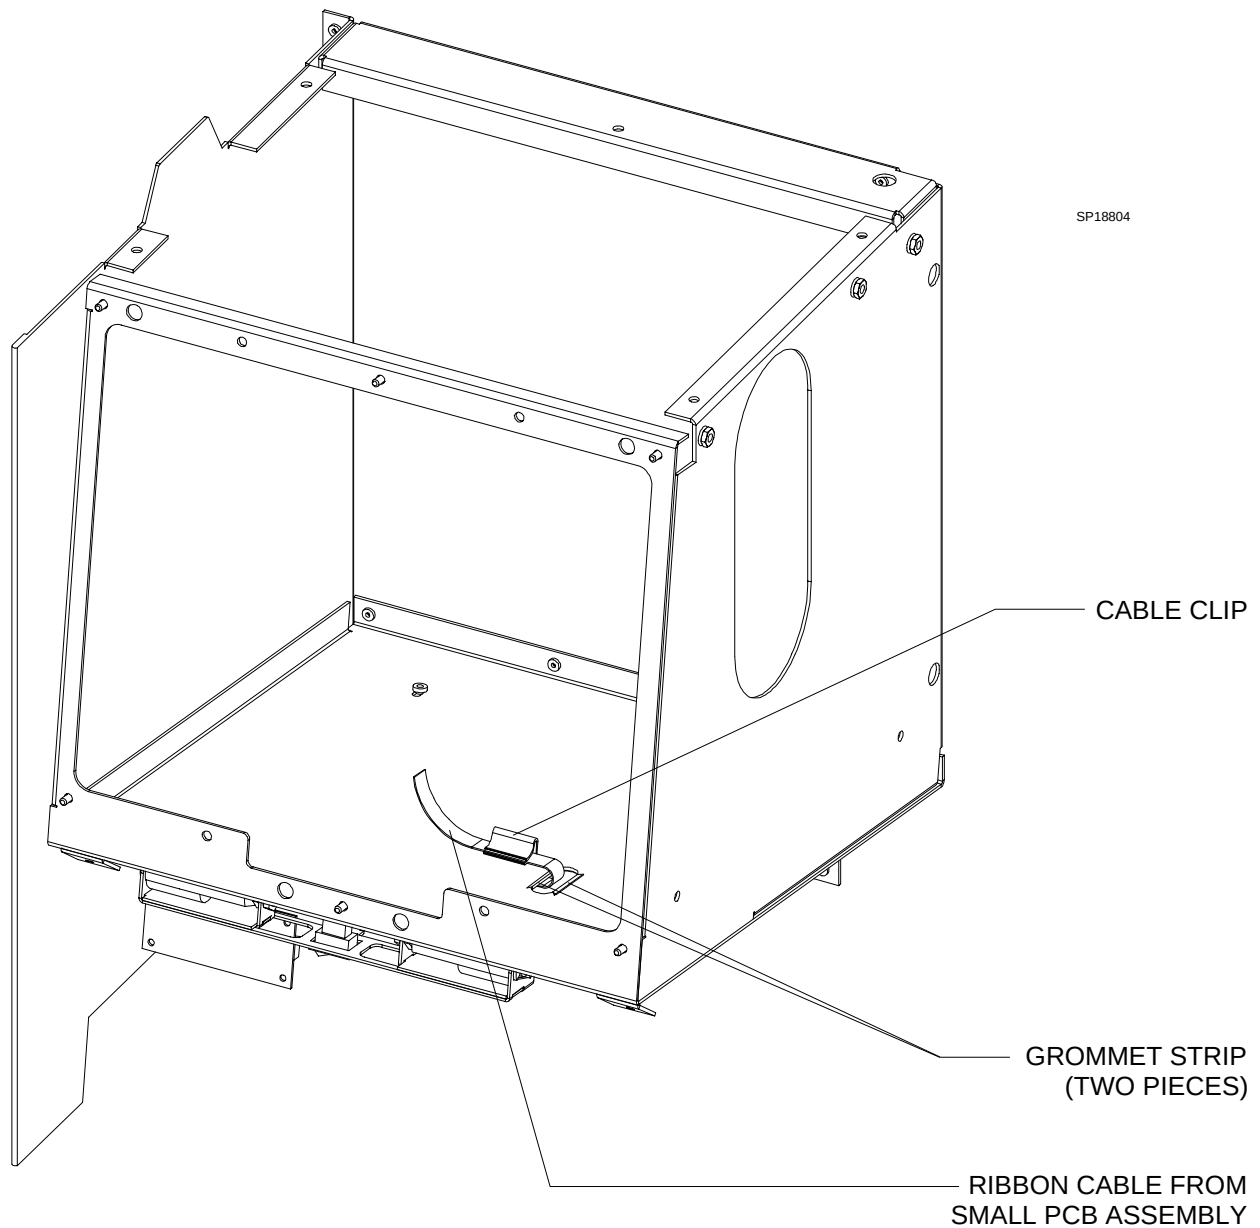

FIGURE 4. Detail of Ribbon Cable Installation
14. Install two pieces of grommet strip (P/N 4109442) in the slot in the floor of the display compartment as shown in Figure 4.
15. Install the ribbon cable clip as shown in Figure 4.
58. Reinstall the lamp panel on the machine; route the ribbon cable from the small PCB up through the slot and cable clamp as shown in Figure 4.